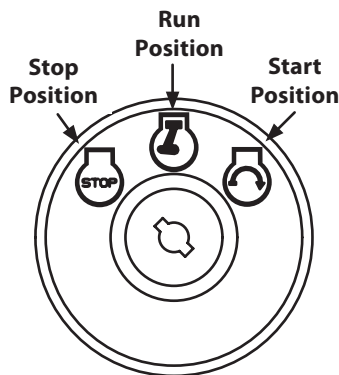

Figure 5-1
2. Move the gear shift lever into the neutral (N) position.
4. Turn the ignition key clockwise to the START position. After the engine starts, release the key. It will return to the RUN position. See Figure 5-1.
4. Turn the ignition key clockwise to the RUN position. See Figure 5-1.